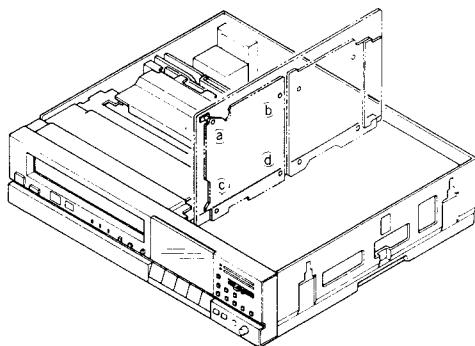

Fig. 2-6
- 2) Unlock the four PCB supports (Ⓐ, Ⓑ, Ⓒ and Ⓓ) retaining the PCB Hi-Fi as shown in Fig. 2-6.